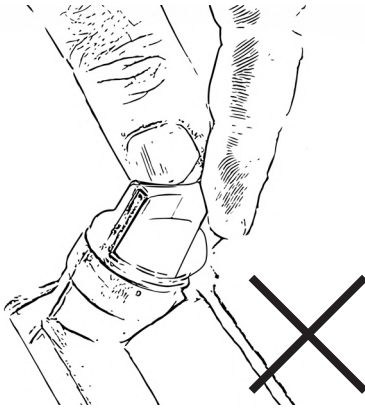

Figure 7
Never turn the oil filler plug with connected dipstick into the thread when reading the oil level. This leads to an incorrect measurement result, Fig. 7.
- Immerse the dipstick completely in the oil. **Never** turn the dipstick into the thread, Fig. 7.